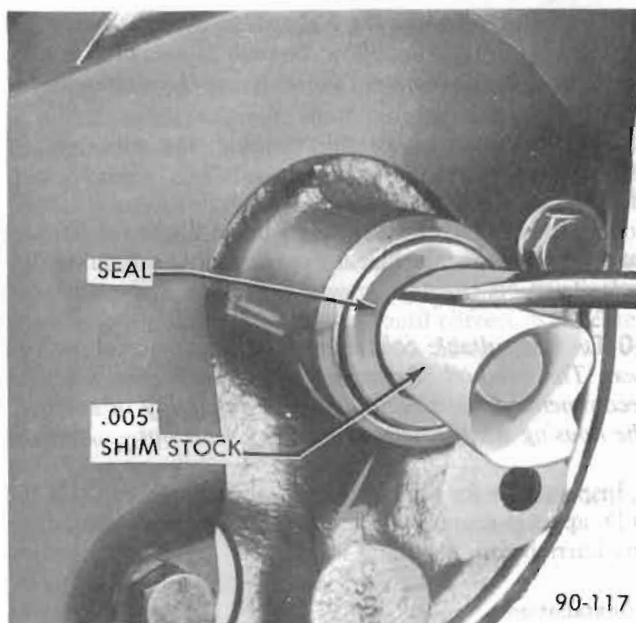

Figure 90-34 Removing Oil Pump Shaft Seal
5. Insert a piece of .005" shim stock (approximately 2-1/2" long) around shaft and push it past seal until it bottoms in pump housing. See Figure 90-34.
6. Remove seal by cutting metal body of seal with a sharp tool and prying out. See Figure 90-34. *Extreme care must be used to prevent damage to shaft and pump housing.*